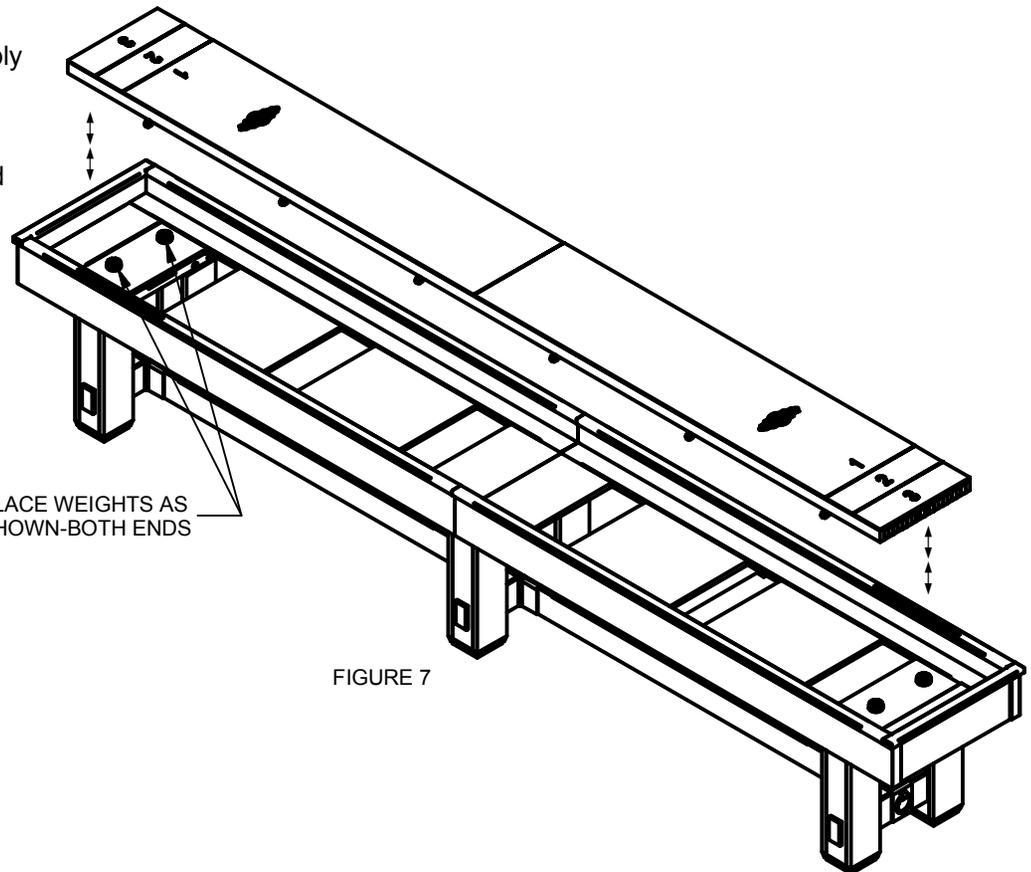

FIGURE 7
- Step 1: Place play field into the cabinet. For best results use weights, two on each end, to rest the play field on and prevent injury. Lift each end from under the cabinet, one end at a time, and remove the weights. Center the play field within the cabinet equally in both directions. (See Figure 7)